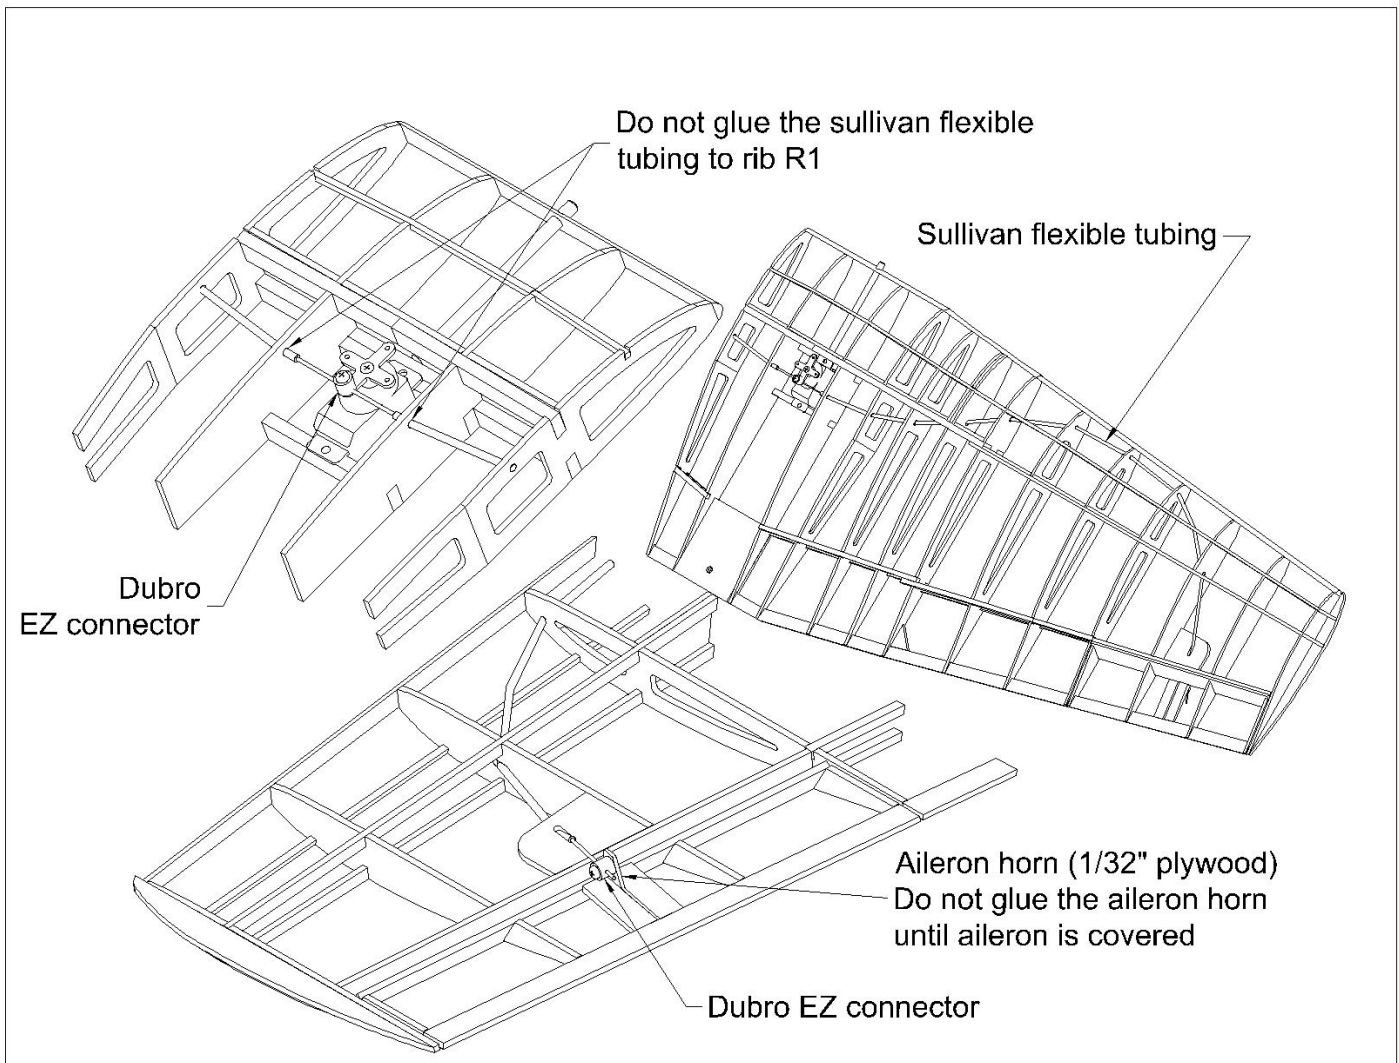

Figure 10
- ❑ Route the yellow sleeve (tubing) through the wing as shown in Figure 10. Be sure to make the tubing run through each hole in the ribs so that it is not "kinked". If the tubing is not a smooth continuous run, it might create additional friction with the control cable and make the aileron servo work harder to control the plane. When you are satisfied with the tubing fit, glue the tubing to the ribs it passes through. Trim the tubing flush with the inside of ribs R1. Next, slide the 1/32" braided cable inside the tube as one continuous run. Just slide the cable inside the tubing and through the Dubro E/Z Connector on the aileron servo. Make sure that the aileron servo arm is positioned so that the cable does not bind with the tubing and EZ Connector.